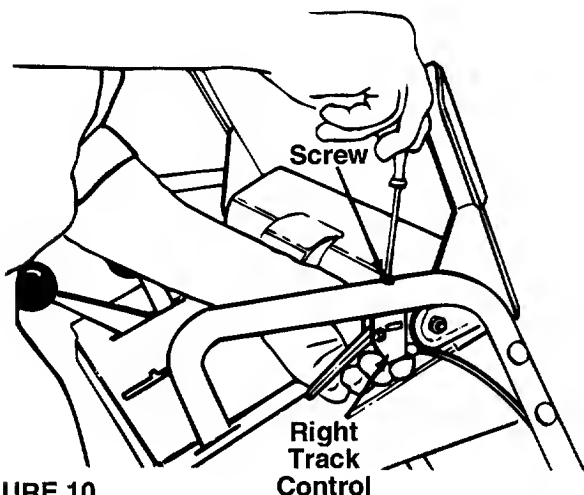

FIGURE 10.
- Place the right track control in position underneath the right handle. Secure with screw just removed. See figure 10.